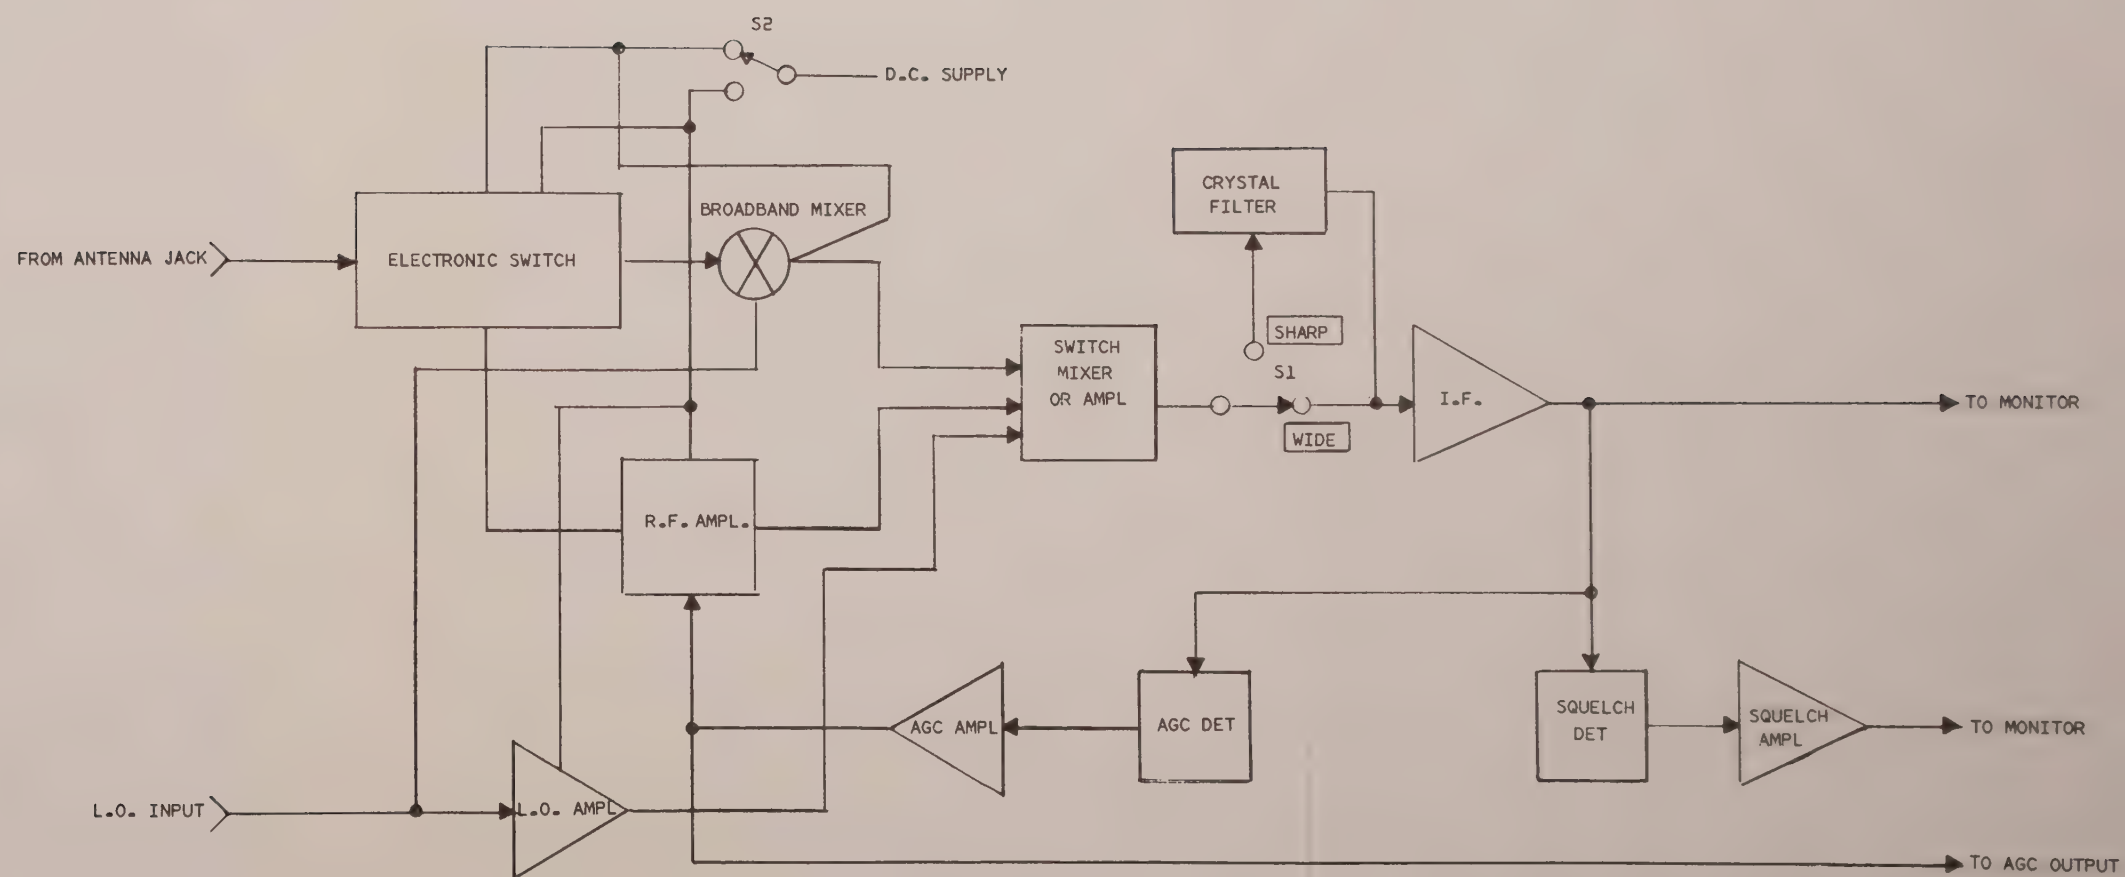

Figure 3-1. Model 304B Overall Block Diagram
3.01 The signal to be measured, from an antenna or other source, goes from the input connector directly to an electronic switch. There it is routed either to the tuned RF amplifier or to the wide band mixer, depending on the setting of the Bandwidth Mode switch. See Block Diagram figure 3-1.